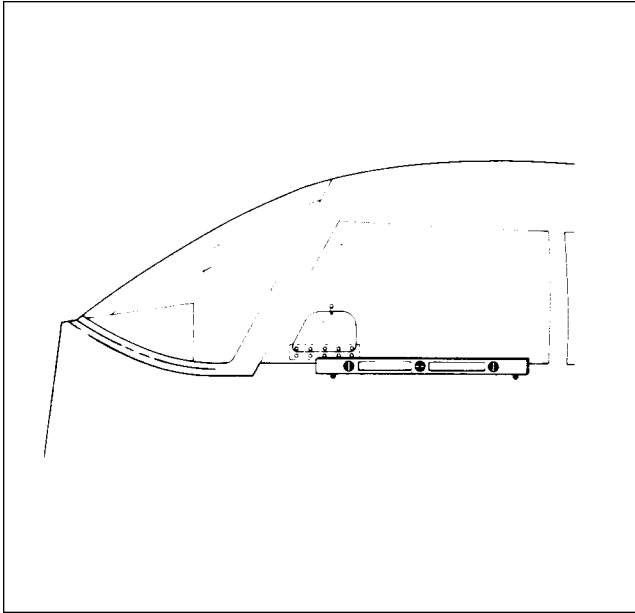

Figure 2-8. Leveling Longitudinally
- a. To longitudinally level the airplane, partially withdraw the two leveling screws located immediately below the left front side window. (Refer to Figure 2-8.) Place a level on these screws heads and adjust the jacks until the level is centered. Should the airplane be either on scales or on the floor, first block the main gear oleos to full extension; then deflate the nose wheel until the proper position is reached.